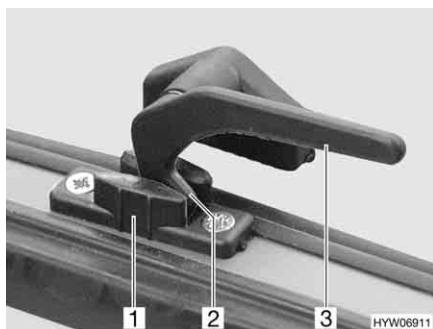

Fig. 71 Catch lever in the "continuous ventilation" position
- "Continuous ventilation" (Fig. 71)
- Turn the catch lever (Fig. 71,3) a quarter turn towards the centre of the window.
- Turn the catch lever a quarter turn towards the window frame. The locking catch (Fig. 71,2) has to be moved into the recess of window catch (Fig. 71,1).